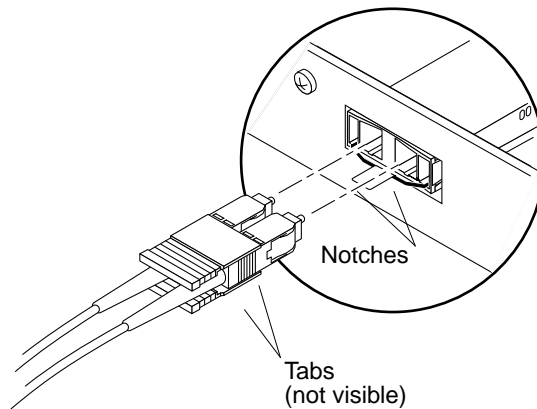

FIGURE 1-5 Connecting the Fiber Optic Cable
5. Connect a fiber optic cable to the LW GBIC (FIGURE 1-5).